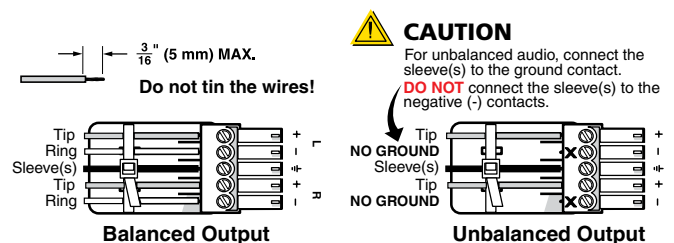

Figure 5. Analog Output Connector Wiring
- ⑥ **Analog audio output** — Connect an audio output device to this 5-pole 3.5 mm captive screw connector (see figure 5). This connector outputs a 2-channel stereo analog audio format.